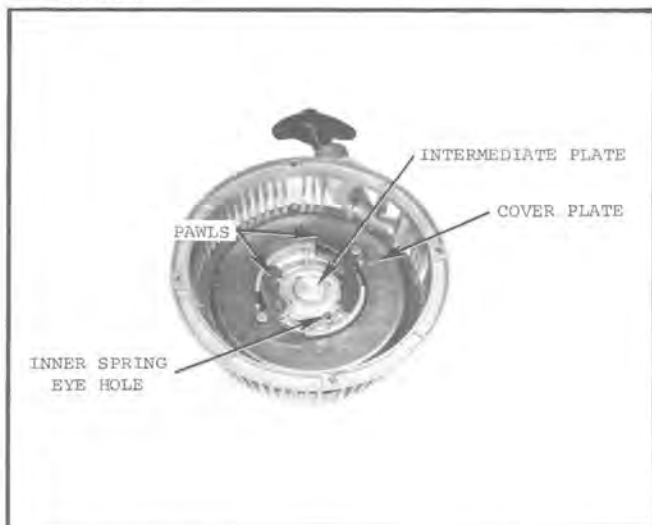

Fig. 43 — Recoil Starter Assembly with Outer Plate Removed
2. Remove outer plate, brake springs and their caps. See Fig. 43.
3. See Fig. 43. Disconnect the pawl retaining springs from the pulley drum, then remove the pawls.
10. Remove housing from rewind device, then reinstall the pawls, their retaining springs, brake springs and their caps. See Fig. 43.